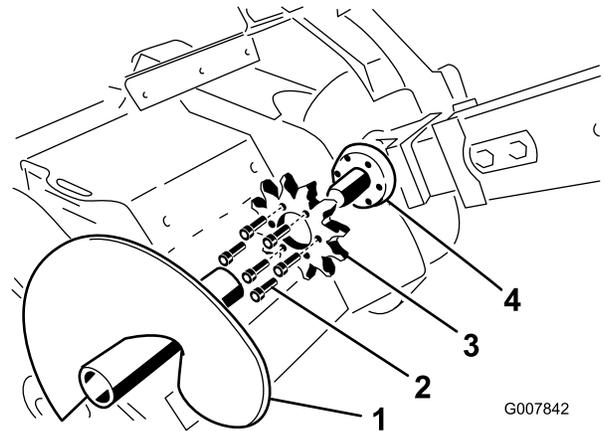

Figure 65
4. Remove the spoils auger (Figure 65).
9. Remove the 6 bolts securing the drive sprocket (Figure 65).
10. Remove and discard the drive sprocket (Figure 65).
11. Clean the sprocket mounting surface on the trencher (Figure 65).
- Slide the new sprocket onto the shaft (Figure 65).
- Thread the 6 bolts into the sprocket finger tight (Figure 65).